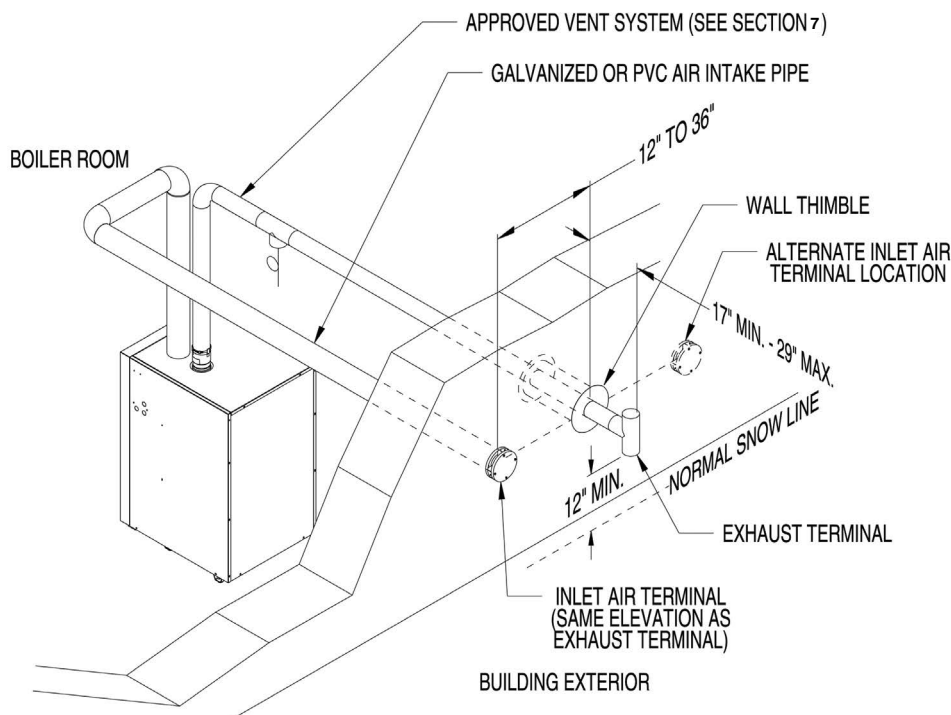

Figure A-4: Horizontal Direct Venting (Vent Options 5-7)
4. Horizontal terminal location – Install the intake terminal to either side of the exhaust terminal as shown in Figure A-4. The intake terminal must be on the same wall as the exhaust terminal. Maintain at least 12 in. from the intake terminal to the exhaust terminal as shown. Also note that when this kit is used, the exhaust terminal must be at least 1 foot from any door, window, or gravity inlet into the building. This is less than the 4 ft. clearance shown in Section 6 for boilers using indoor combustion air.